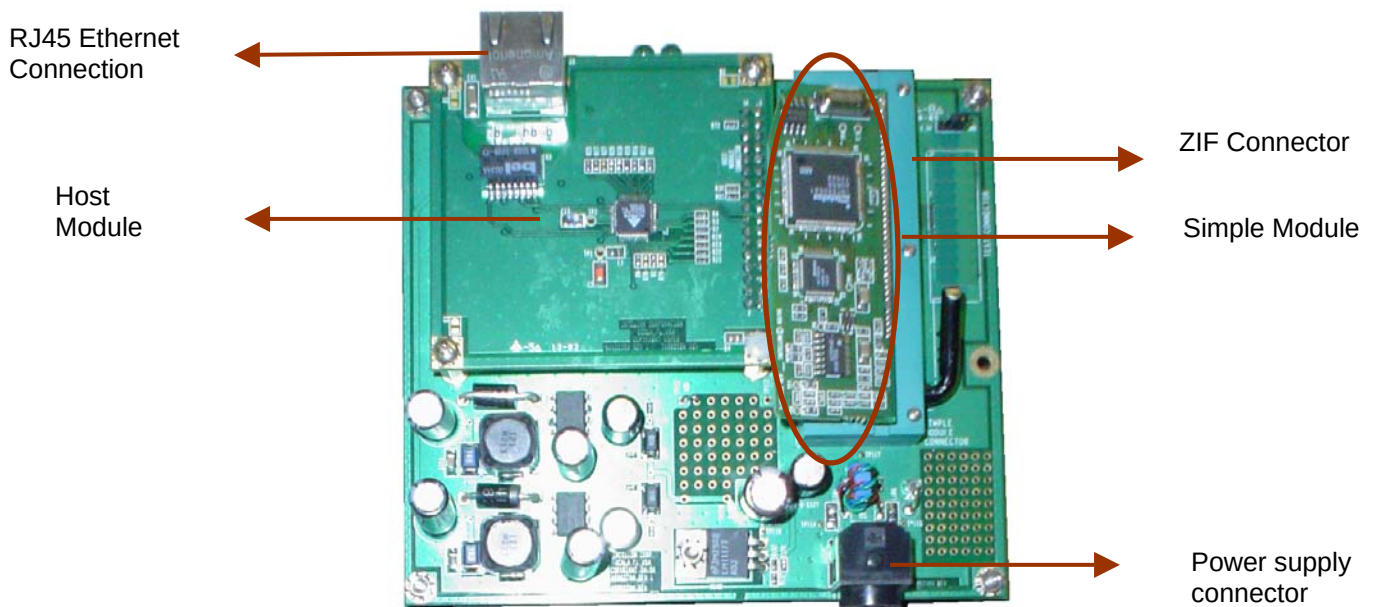

Figure 3. EK55MX-DC Baseboard with Host Module
- a. Plug the host interface module, e.g. Host/ DTE, into host interface module connector. Figure 3 shows the EK55MX-DC baseboard with host interface and SIMPLE module.